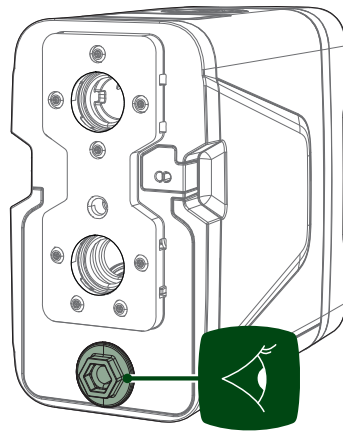

Fig. 14 Drain cap
7. Proceed to completely empty the pump by carefully unscrewing and removing the drain plug (see **Fig. 14 Drain cap**). If the fill cap (NRV) is removed or sufficiently loosened during the operation, see **Fig. 10 Filling – Correct position of NRV cap**, the pump and the entire delivery duct will drain more easily;